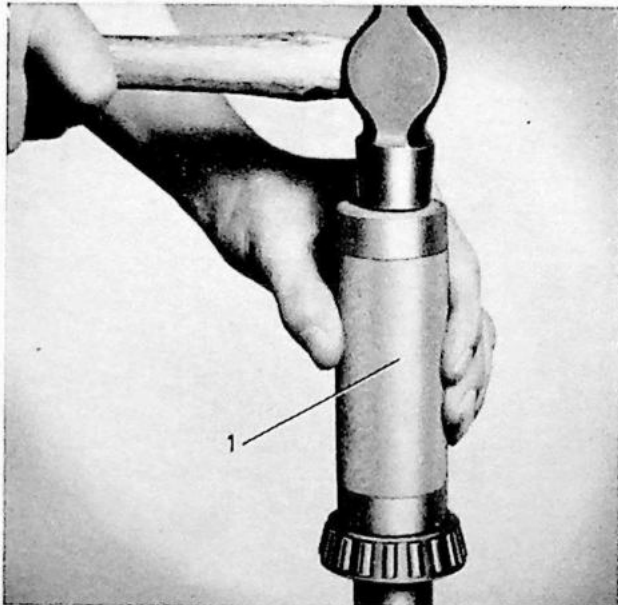

Fig. 42. Fitting drive shaft bearing.
2. Press the bearings (9) onto the drive shafts if they have been removed. Use SVO 1805, see fig. 42. Ring SVO 1806 can be used as a counterhold if the smaller diameter of the hole is turned to face the flange on the shaft.